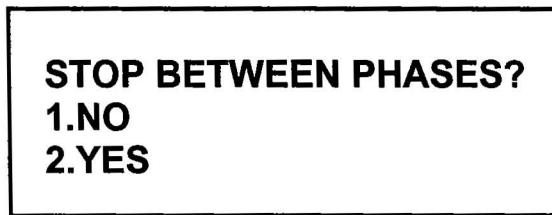

Figure 14-3. Transformer Test Procedure Menu
- b. Origin:** Select key 1 or 2 from options listed in Figure 14-3. This menu is displayed after the operator selects the transformer type to be tested.